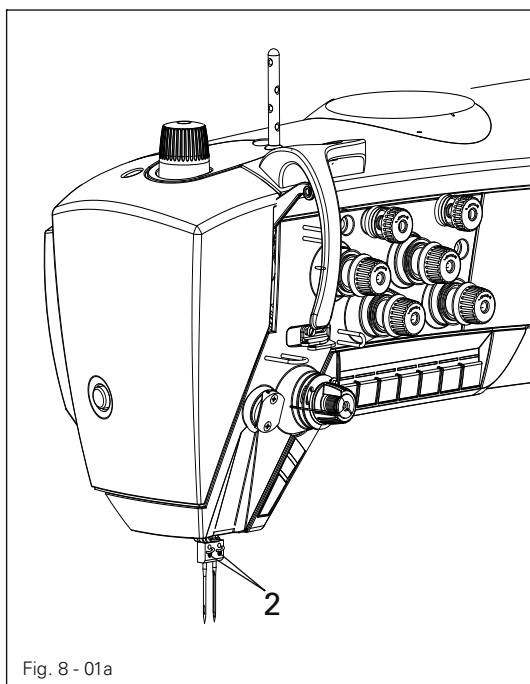

Fig. 8 - 01a
- Thread the needle thread as shown in Fig. 8 - 06.